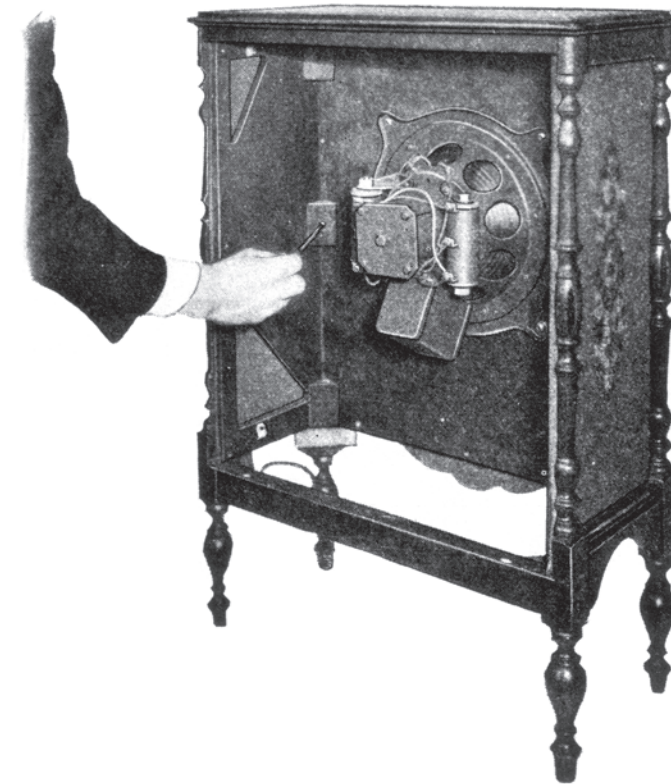
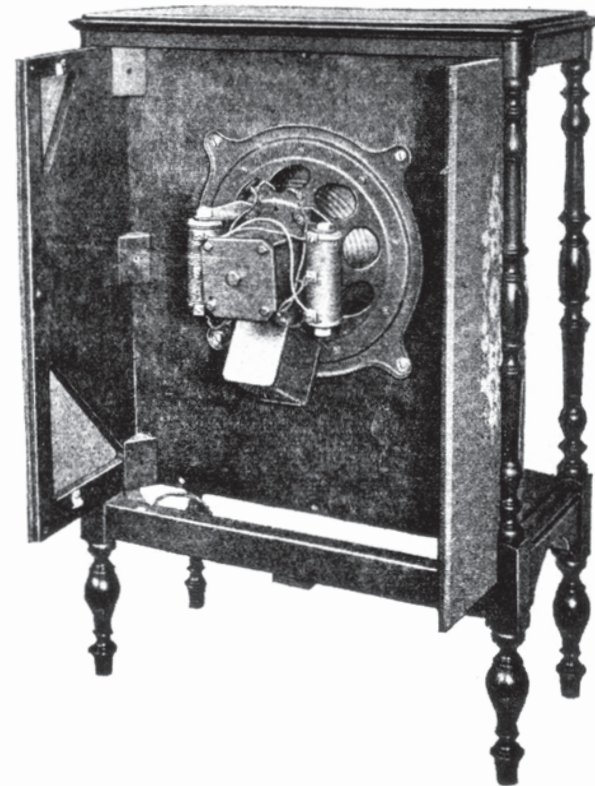

Figure 5—Removing baffle plate
Figure 6—Baffle plate partly removed
- (c) Remove the eighteen wood screws (Figure 5) that hold the baffle and side pieces to the cabinet frame. The frame may now be pulled through the rear opening (Figure 6). The grille cloth is held in place by means of tacks. Remove the tacks and grille cloth and stretch the new cloth in place. Replace the tacks.